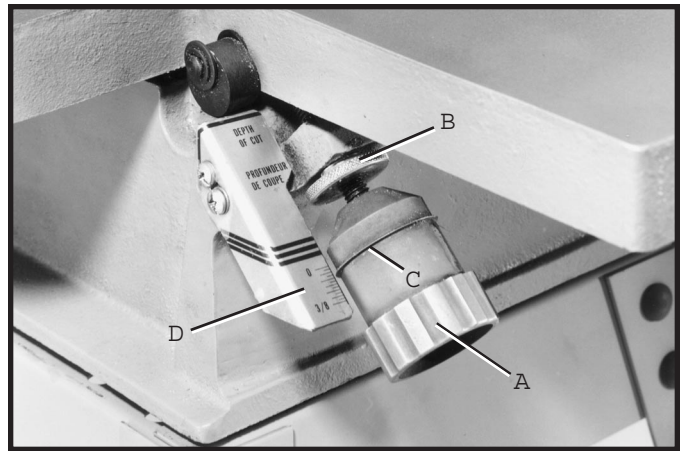
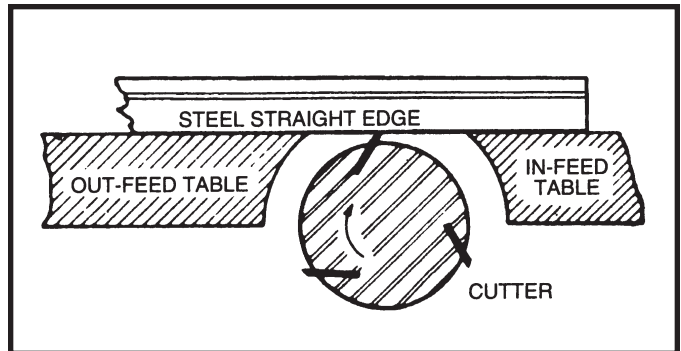

Fig. 32
Fig. 33
2. To adjust the depth-of-cut, loosen lock knob (B) Fig. 32. Turn adjustment knob (A) counterclockwise to lower the infeed table or clockwise to raise the infeed table. The ring (C) Fig. 32, indicates the depth-of-cut on scale (D). Tighten lock knob (B), after adjustment is made.
3. To check if the ring (C) Fig. 32, is aligned correctly to the depth-of-cut scale (D), place a straight edge on the outfeed table and extend it over the infeed table as shown in Fig. 33.